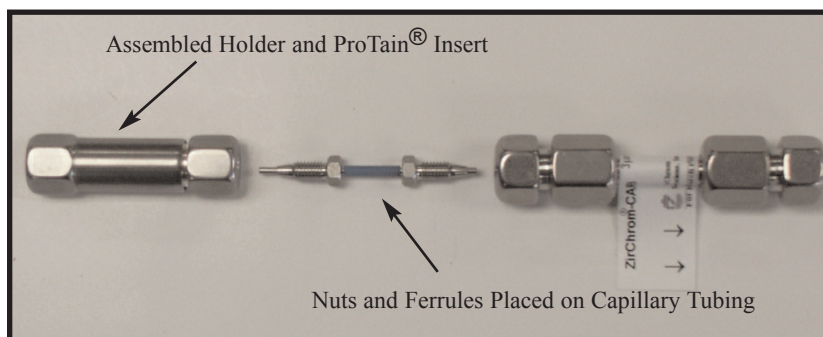

Figure 2: ProTain System Assembly
2. Place ProTain® media insert into the threaded cap (B) of the holder. Insert is bi-directional. Screw threaded cap (B) of holder into the body portion of the holder (A) until finger-tight (see figure 2). Using two 1/2" wrenches tighten holder 30 degrees. **Note: Overtightening may damage holder threads and will void the system warranty.**
3. Place one 1/16" nut and one ferrule (wide end towards nut) on each end of the capillary tubing (see figure 2).